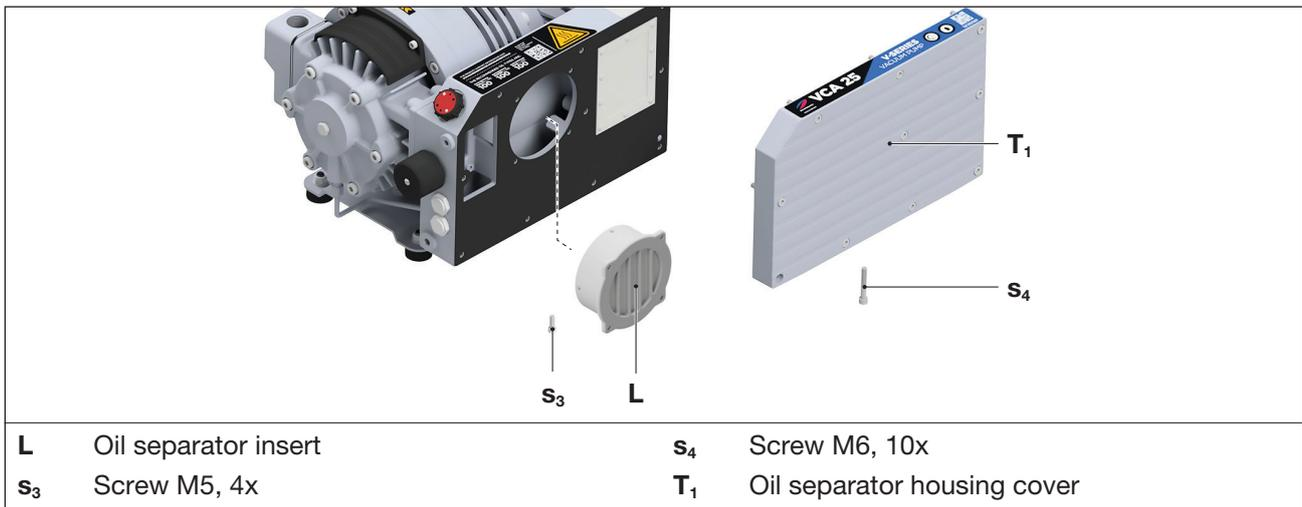

Fig. 8 Oil separator insert
- b) Undo the screws (Fig. 8/s₄) on the oil separator housing cover (Fig. 8/T₁) and remove the oil separator housing cover (Fig. 8/T₁).
- c) Undo the screws (Fig. 8/s₃) on the oil separator insert (Fig. 8/L) and remove the oil separator insert.
- d) Insert the new oil separator insert (Fig. 8/L) and secure it with the screws (Fig. 8/s₃). Tighten the screws hand-tight.
- e) Replace the oil separator housing cover (Fig. 8/T₁) and secure it with the screws (Fig. 8/s₄). Tightening torque: 10 Nm